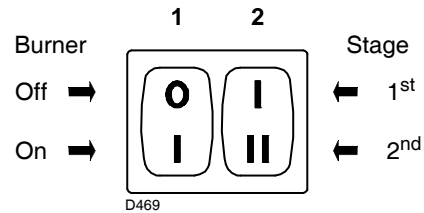
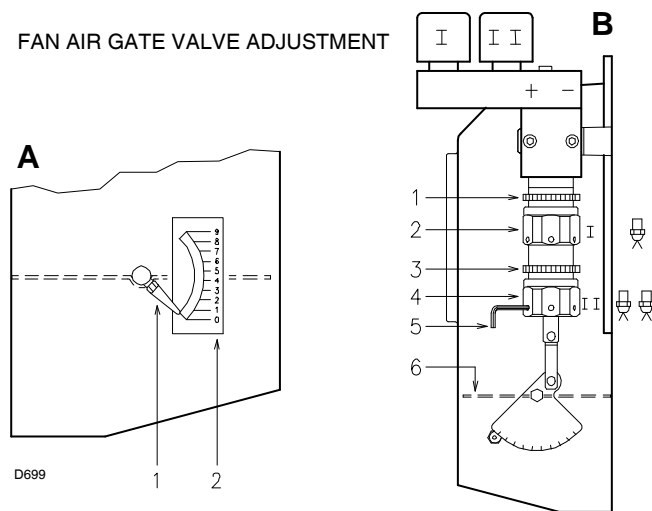

Fig. 26
Fig. 27
Set switch 1)(Fig. 26) to "ON".
Keep the burner operating at 1st stage by setting the switch 2) (Fig. 26 on page 26) to the 1st stage position. Opening of the air gate valve 6)(B, Fig. 27) must be adjusted in proportion to the selected nozzle: the index 1) (A, Fig. 27) must be aligned with the notch 2) (A, Fig. 27) specified in (Tab. M). This adjustment is achieved by turning the hex element 2) (B, Fig. 27):
N° = Notch 2)(Fig. 27)
2,3 (Fig. 27) notch aligned with index 1) (Fig. 27).
Set switch 2) (Fig. 26 on page 26) to the 2nd stage position and adjust the air gate valve 6) (B, Fig. 27) by turning the hex element 4) (B, Fig. 27), after having loosened the ring nut 3)(B, Fig. 27).
in order to facilitate adjustment of hex elements 2) and 4) (A, Fig. 27), use a 3 mm Allen key 5) (B, Fig. 27).